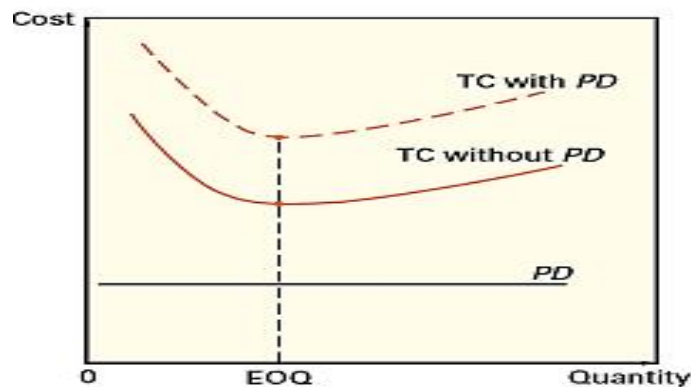

Figure 7.6: The addition of PD has no effect on EOQ
Remember that the purchasing cost is not factored into the standard EOQ model when determining order size. The reason for not adding unit price is that assuming no quantity discounts, the price per unit is the same regardless of order size. In that situation, including unit pricing in the total-cost calculation would simply increase the total cost by P times D . A horizontal line would be a graph of total annual purchasing cost vs quantity. As a result, adding purchase costs to the total-cost curve would simply raise it by the same amount (PD) at each point. The EOQ would remain unchanged. (Refer to Figure 7.6)